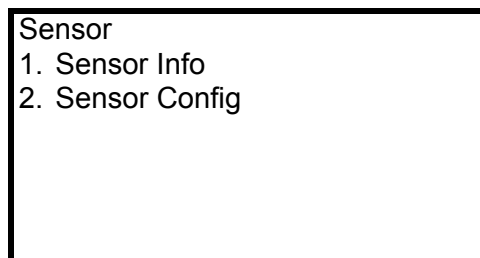

Figure 15 Sensor menu
3. From the sensor menu (Figure 15), select “2. Sensor config”.